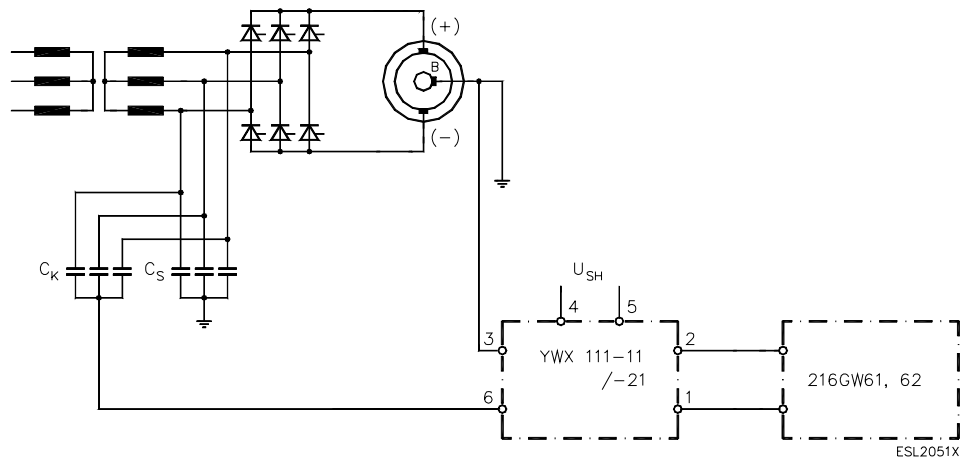

Fig. 4.11 Wiring diagram of the relay RE. 216 and ancillary unit Type YWX111-11/-21
b) Circuit according to Fig. 4.11:
Fig. 4.11 Wiring diagram of the relay RE. 216 and ancillary unit Type YWX111-11/-21 - Connection to the a.c. part of the excitation circuit